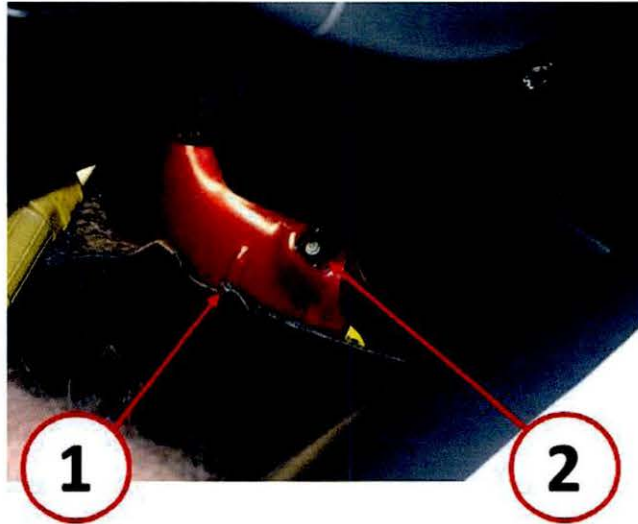

Fig. 1 Remove Carpet
2. Pull back floor tunnel carpet (1) near lower instrument panel on left side to expose instrument panel support bracket (2) (Fig. 1).